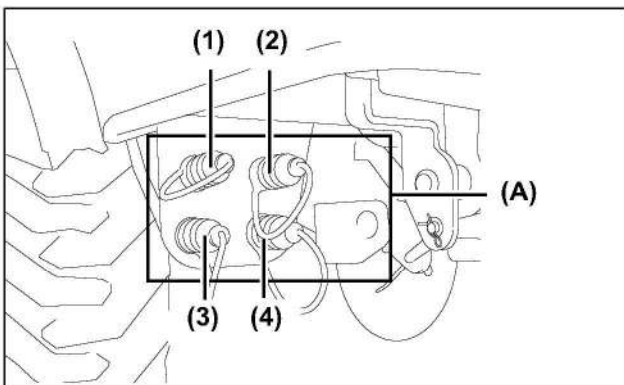

Fig 11-3
2. There are 4 hydraulic quick couplers (Fig 11-3, A) (color coded by the rubber plugs).